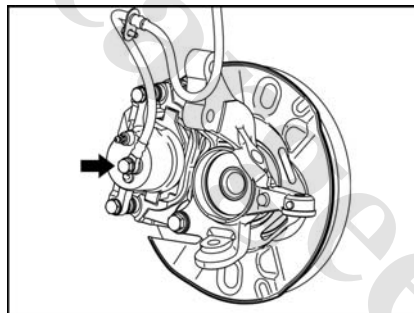

Fig. 2-50
① Remove the connector bolts and washer from the front disc brake caliper, and then disconnect the hose. See Fig. 2-50.